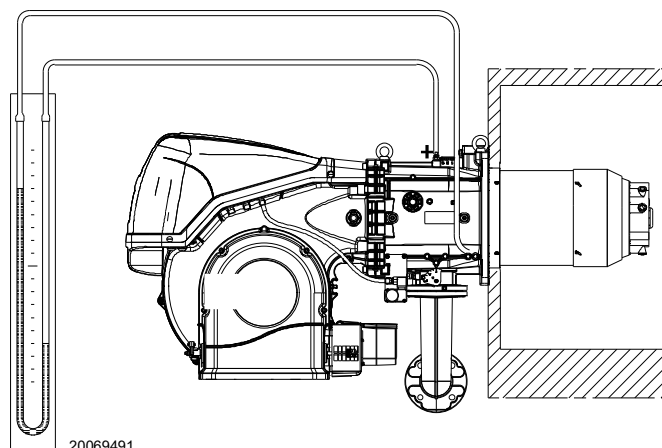

Fig. 28
- Fit a U-type pressure gauge or a differential pressure gauge (Fig. 28), with socket (+) on the gas pressure of the pipe coupling and (-) in the combustion chamber. The manometer readings are used to calculate MAX burner output using the .